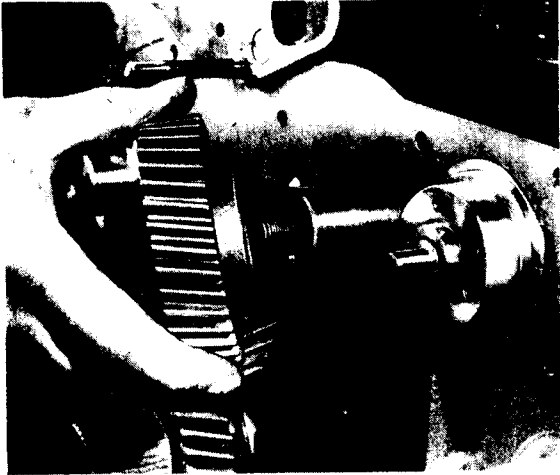
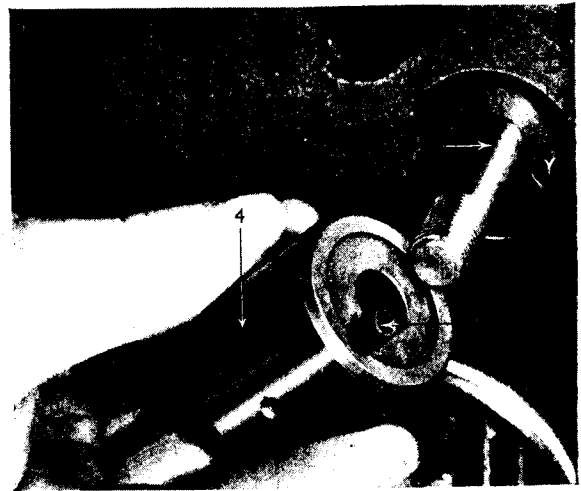

Fig. J.5. Removing Idler Gear (contra rotating engine).
Fig. J.7. Removing Idler Gear Hub.
3. Withdraw the retaining plate and the idler gears (Fig. J.5 and J.6). Withdraw the hubs (Fig. J.7).